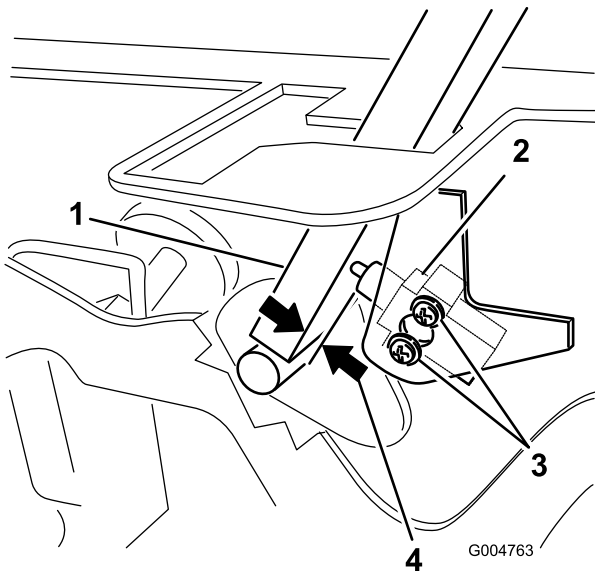

Figure 56
3. Loosen the 2 screws securing the interlock switch (Figure 56).
4. Holding the control lever against the frame, move the switch toward the lever until the distance between lever and switch body is 0.015 to 0.045 inch (0.4 to 1 mm) (Figure 56).